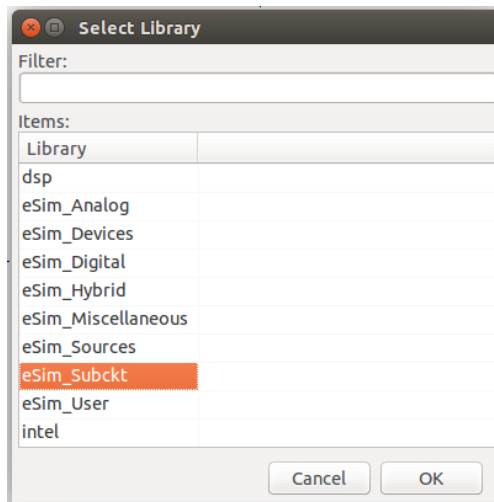

Figure 8.6: Selecting Working Library
2. Select the Current Library as eSim_Subckt shown in Fig. 8.6 from the eSim-1.1.3/KicadSchematics. You can also select eSim_Subckt from default path but most of the time the changes are not reflected as it is *read-only* file.